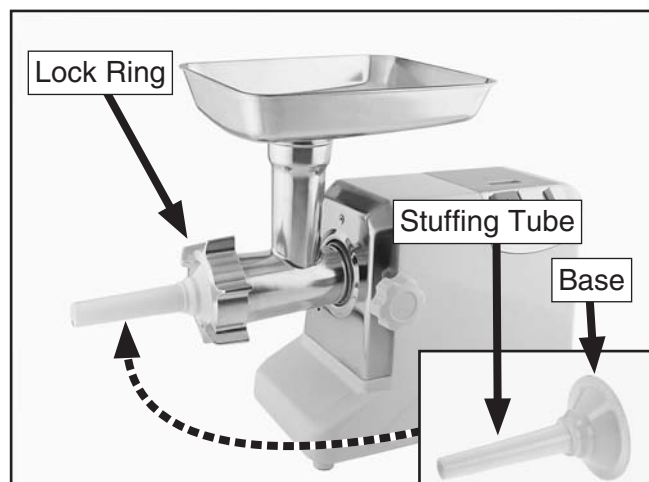

Figure 13. Stuffing tube and base installed.
5. Insert the stuffing tube into the stuffing tube base, place it on the stuffing plate, then secure it with the lock ring, as shown in **Figure 13**.